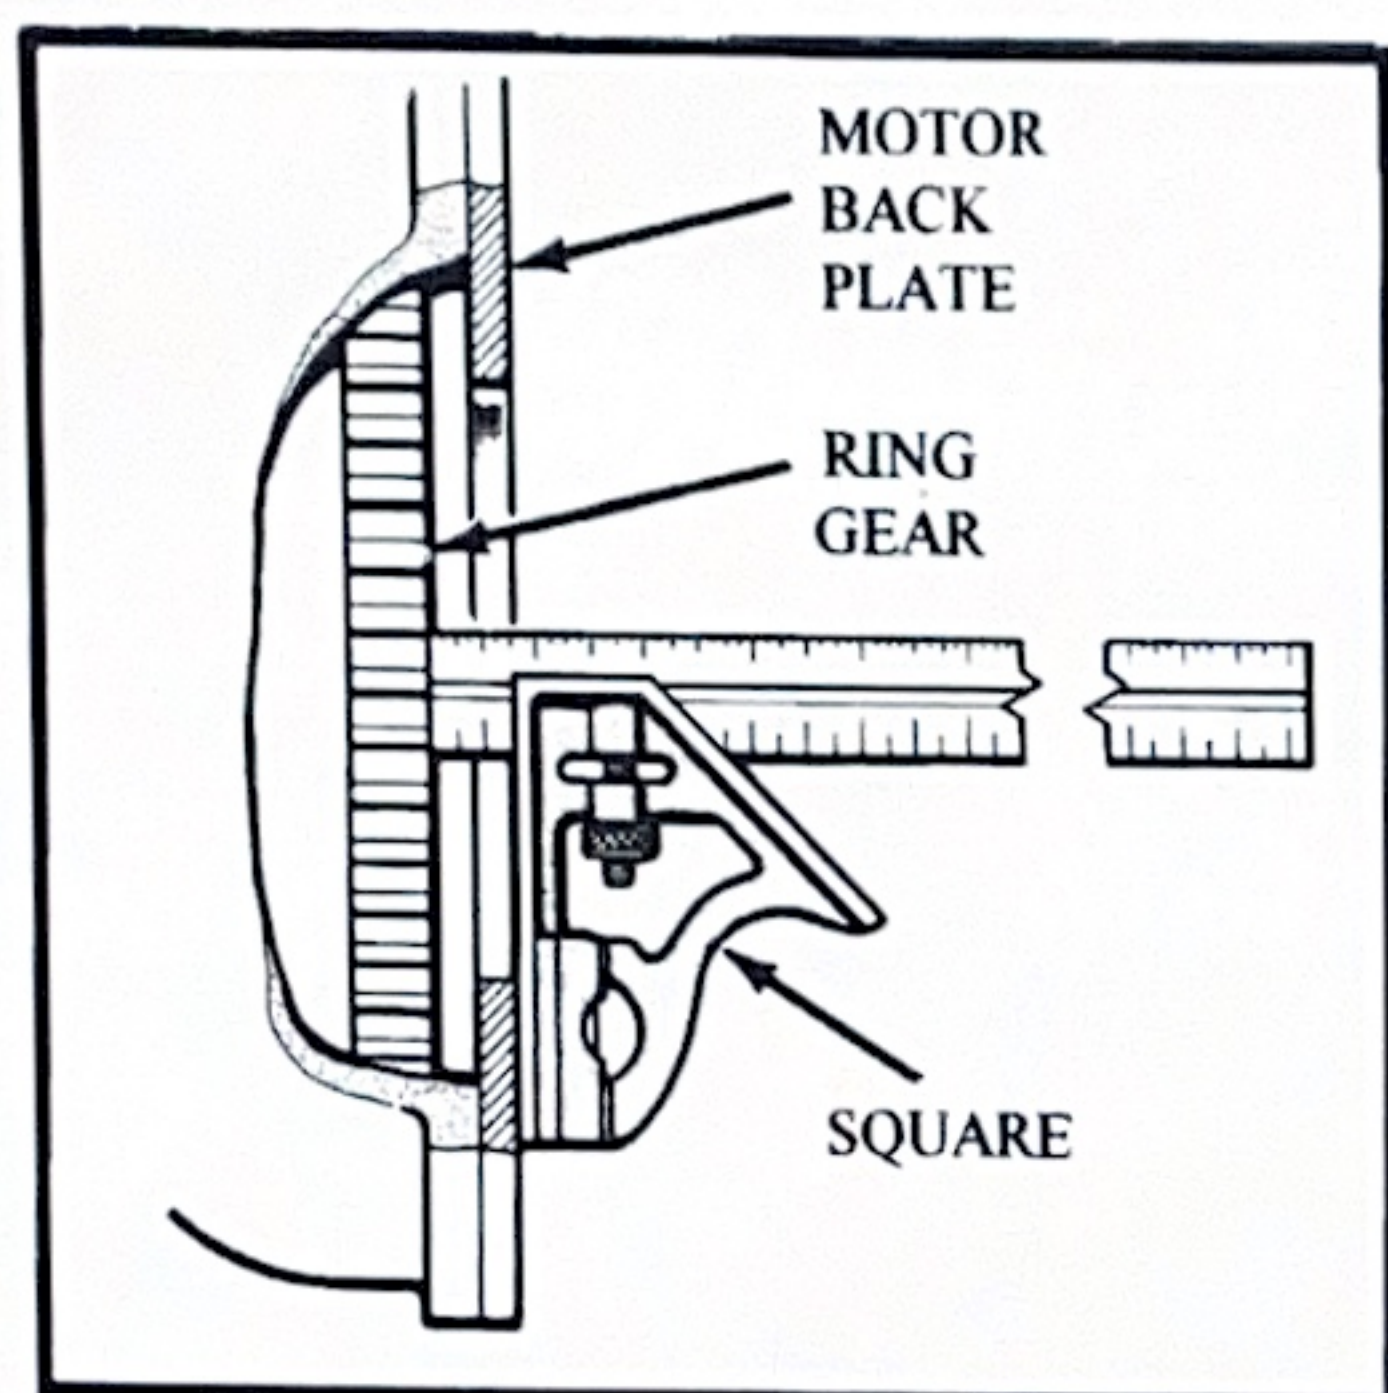
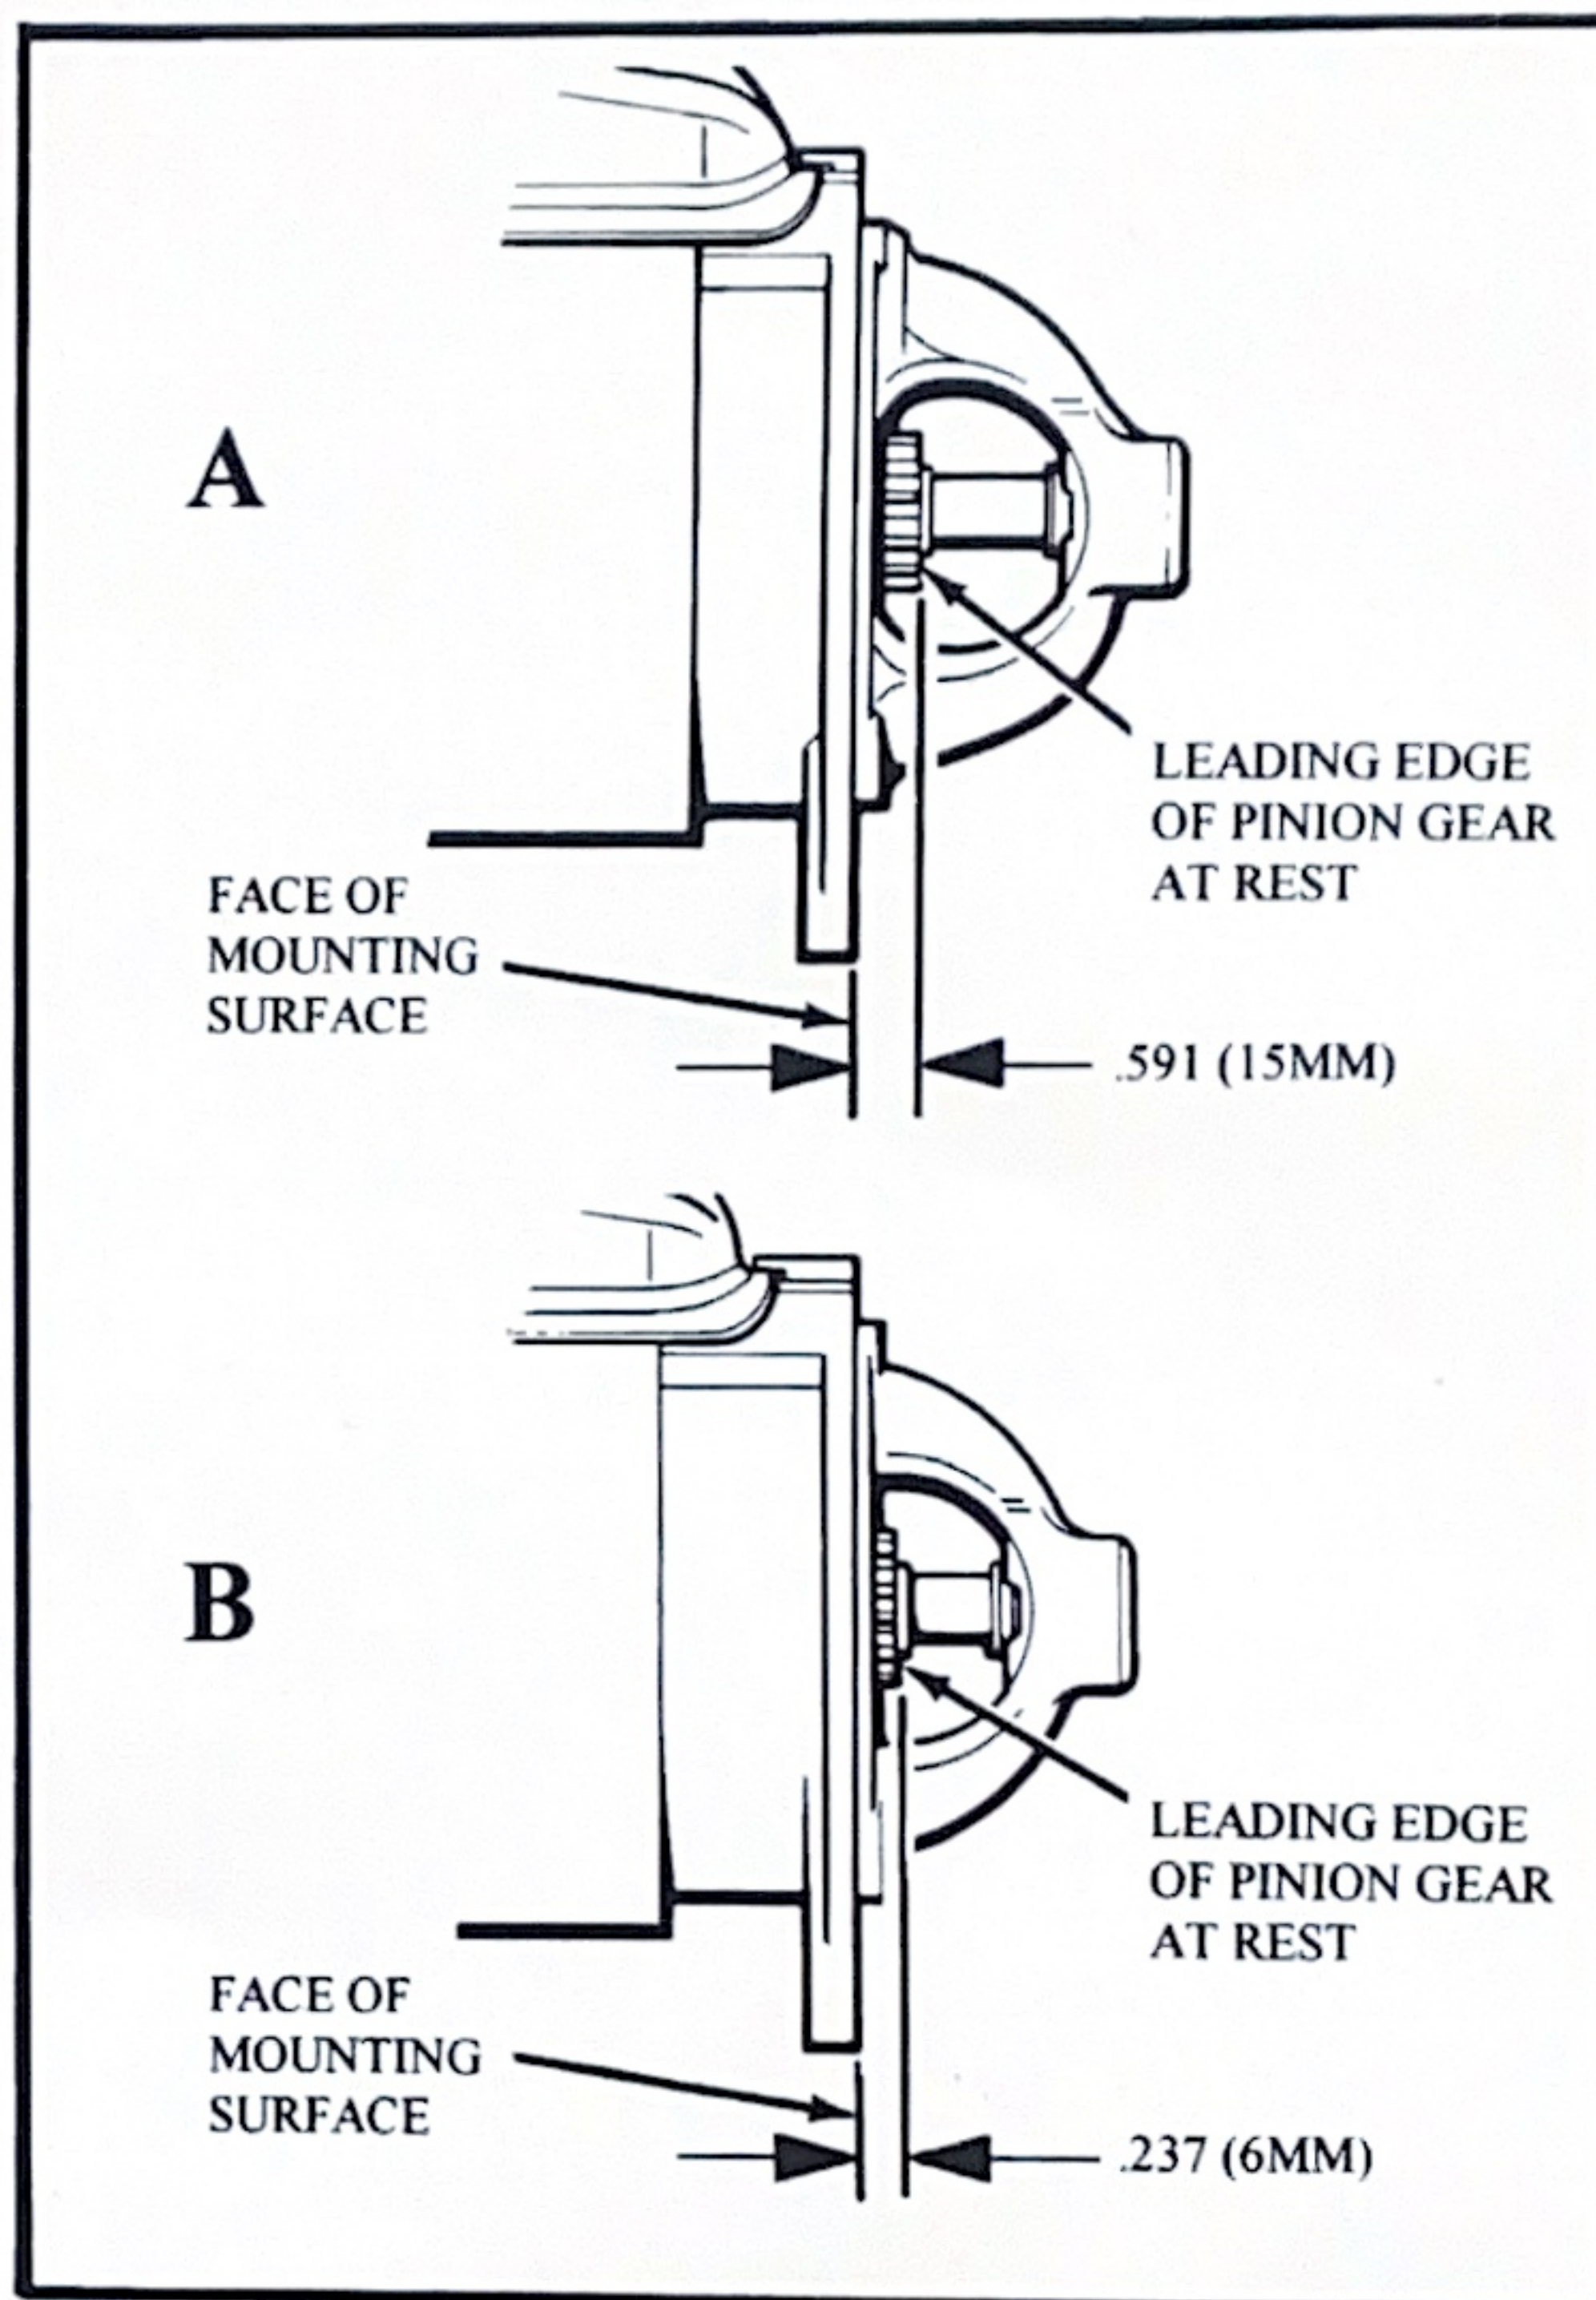
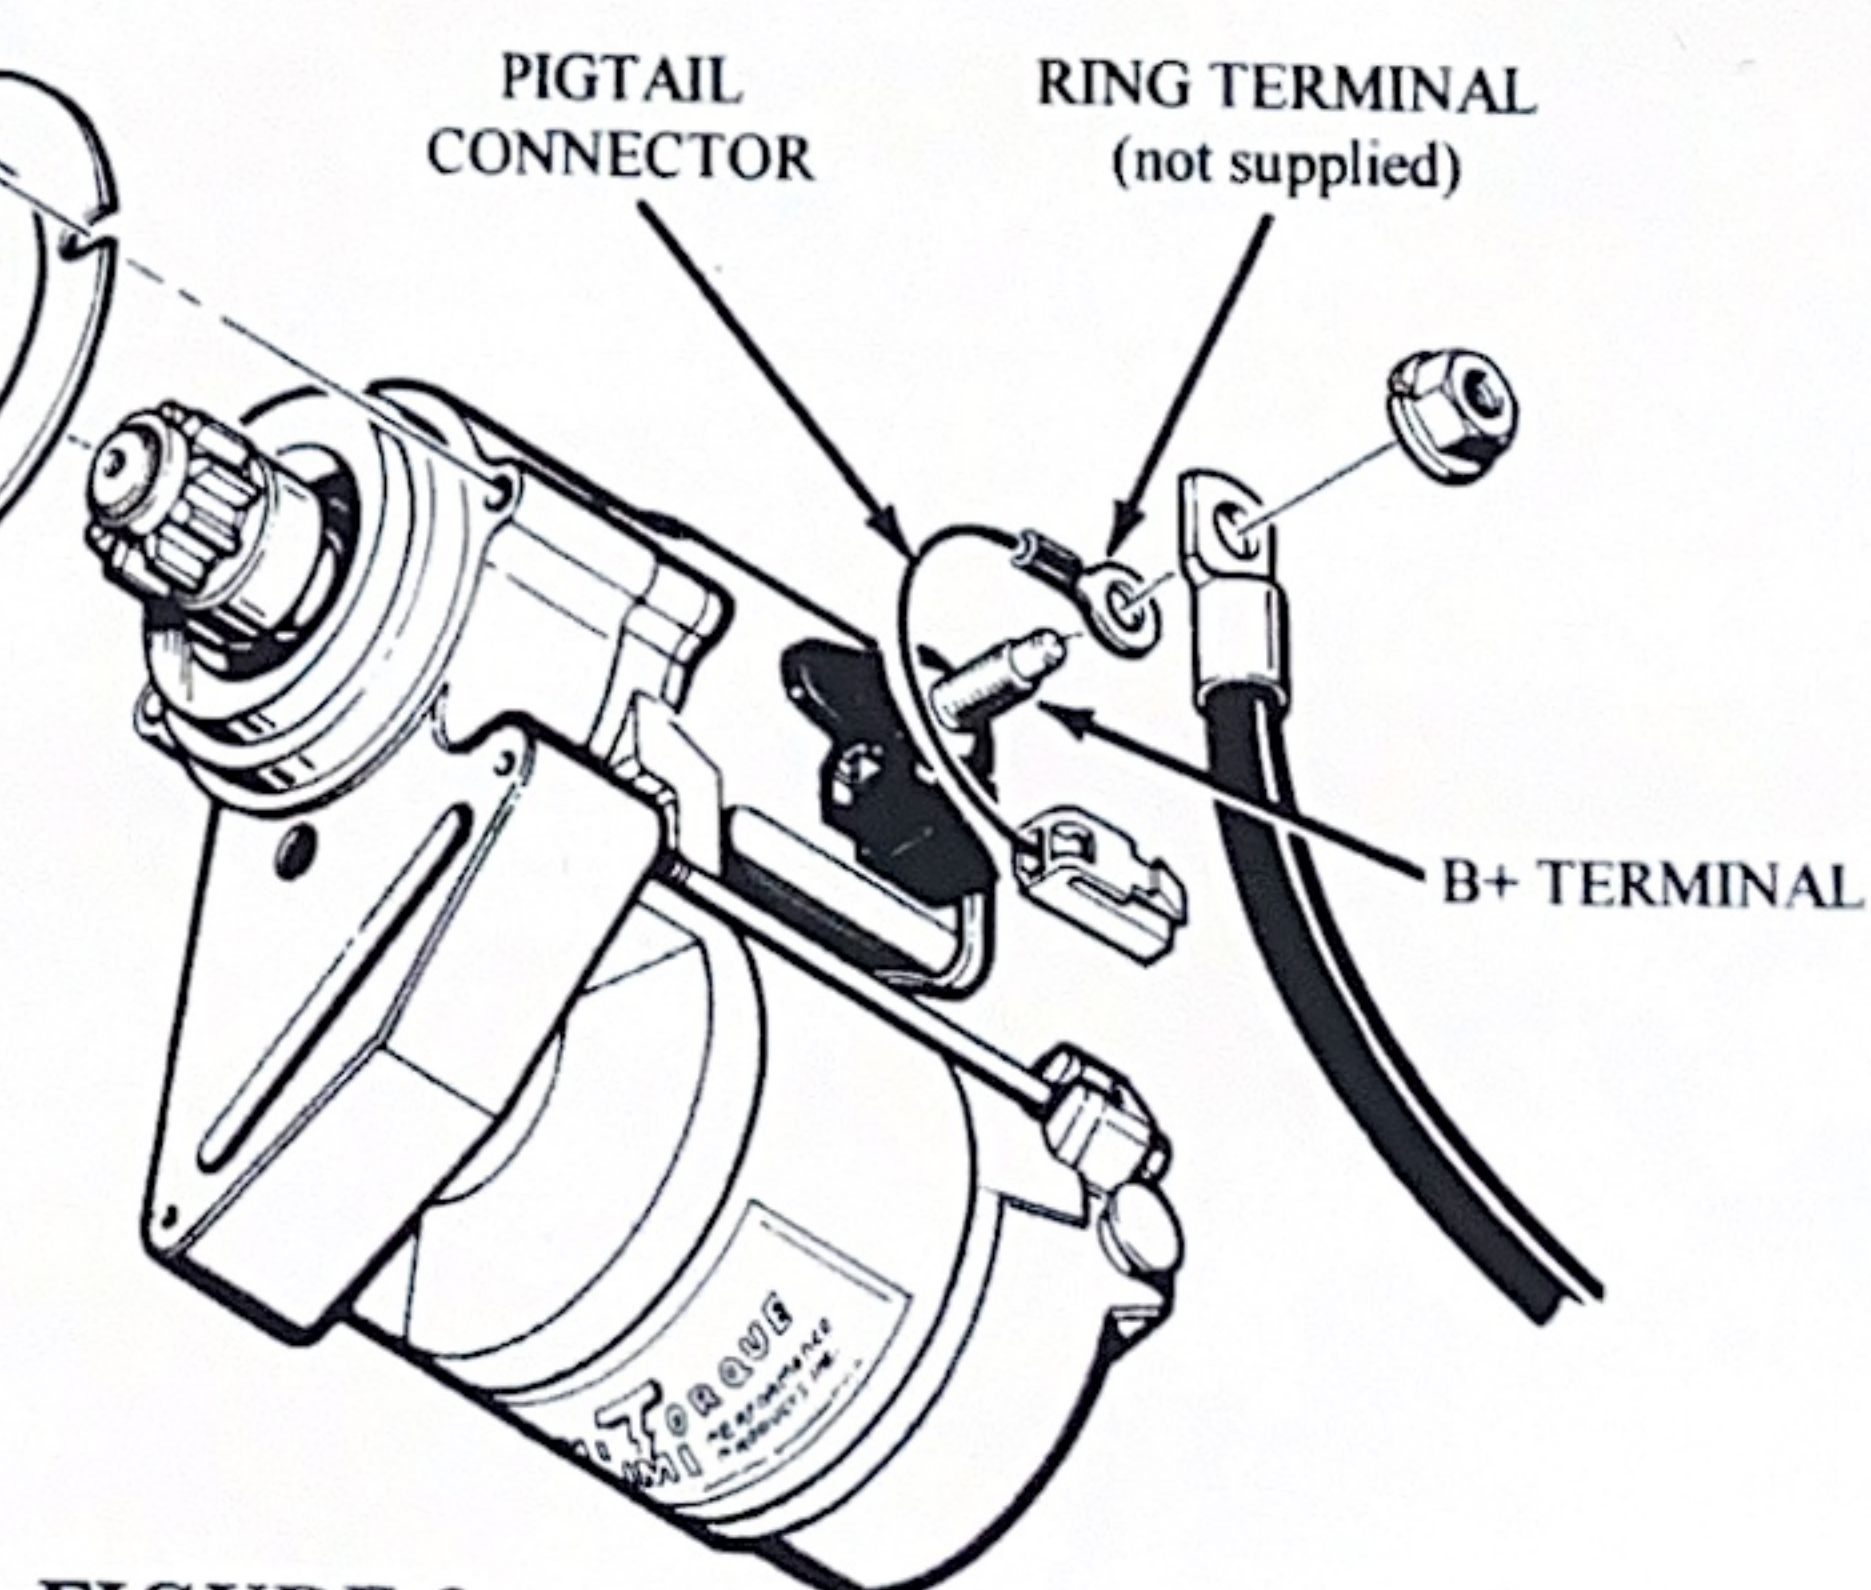

FIGURE 4
FIGURE 1
FIGURE 3
2. Ford uses two different lengths of starter motors. These vary as to how far the starter pinion gear extends past the mounting flange (refer to Figure 1). The pinion gear on cars equipped with an automatic transmission extend past the mounting flange by .591" (15mm) -see Fig1A. The pinion gear on the starter usually used on manually equipped cars extend .237" (6mm) past the mounting flange (Fig1B). If the *Hi-Torque* starter is to be used in place of the shorter starter, then the "spacer ring" supplied with the kit will have to be installed between the mounting flange and the starter (see Fig. 3).
3. Temporarily attach the mounting plate to the engine using the original bolts (Fig 3). NOTE: big block Fords use the 906T mounting flange, which has a threaded hole. At this point DO NOT bolt the starter to the mounting plate. Hold the starter motor temporarily up into position on the mounting plate. While holding the starter motor in place, check for clearance between the starter and the engine block, and between the headers/exhaust system. NOTE: there are eighteen mounting holes located at 20 degree increments. Rotate the starter until you have roughly equal clearance on both sides of the motor. Using a felt tipped marker, mark across the mounting plate and the body of the starter motor. Remove the starter motor and the mounting plate from the engine. Position the mounting plate onto the starter motor. Install the two 5mm allen screws into the pair of holes which allow the closest alignment of the previously made marks. Using a metric allen wrench, temporarily tighten the bolts.
4. End clearance between the ring gear and the pinion gear teeth in the retracted position is critical (Figure 2). On the *Hi-Torque* starter, the pinion gear extends past the mounting plate flange by ½" in the retracted position. The distance from the motor mount plate to the front edge of the ring gear must be measured (Fig.4). Calculate the clearance by subtracting ½" from this dimension. If you are using the spacer ring (Fig. 3) in your installation, then subtract an additional 0.4". The clearance should be between .040" to .100". If the measurement is less than this, you will have to add a circular shim (supplied with the starter) between the starter motor and the mounting plate. Each shim is .074" thick. After determining the proper number of shims, apply **LOCTITE® 262** (or equivalent) to the bolts and tighten them to 95 IN/LBS. We recommend that you use a 4mm or 5mm hex driver with an inch pound torque wrench to do this.